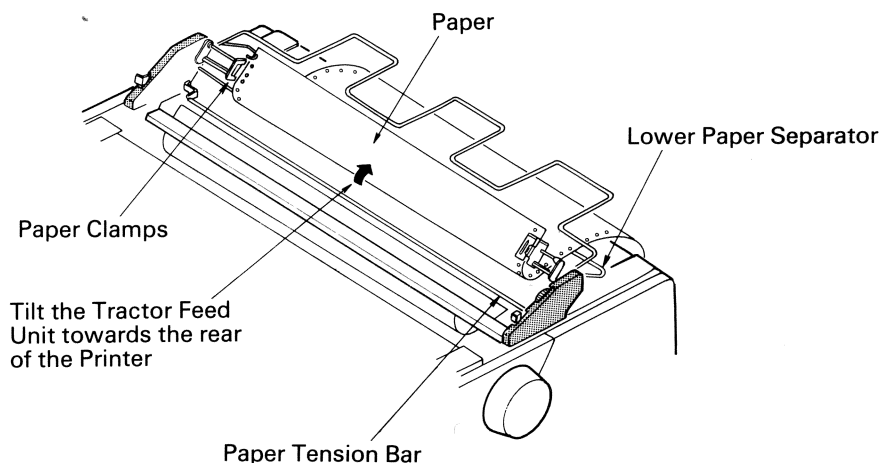

Figure 6
3. Loosen the Clamp locks (gently pull the locks towards you) and slide the Clamps to the left and right to adjust to the paper width. Be sure to lock the Clamps into position once they have been adjusted. (See Figure 6.)